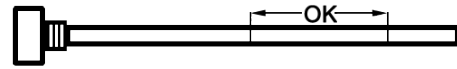

FIGURE 8.
- Using the lift handle, stand the log splitter on the wheels end, with a block under position shield. Do not stand on the control handle, which will damage the valve core. (see *FIGURE 8*).